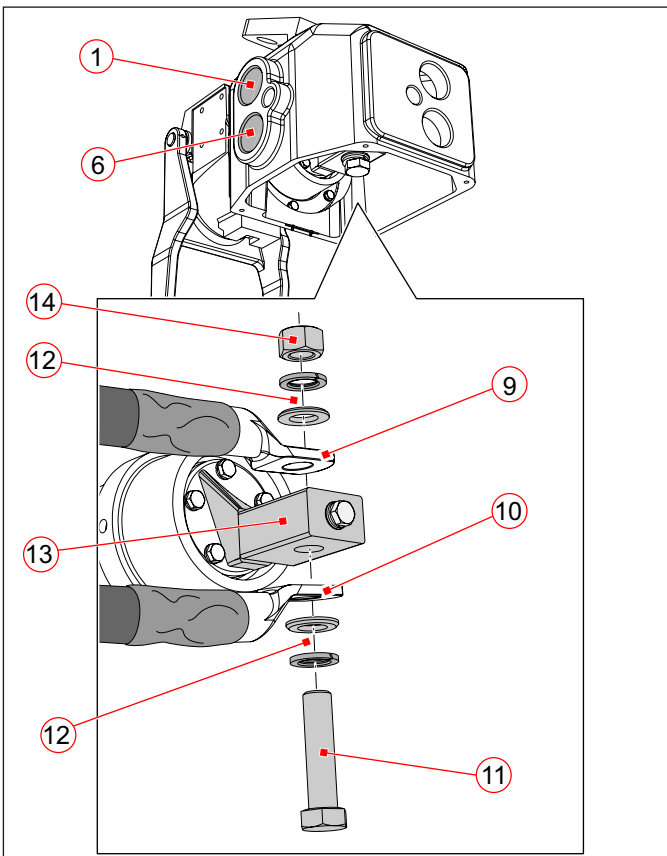

Fig. 10: Cable connections 2x lateral, vertical
Connection 2x lateral, vertical (Fig. 10)
► For connection type 2x lateral (1/6), connect the cables according to **Fig. 10** with screw (11), washers as well as spring lock washers (12) and nut (14) to the connecting piece (13).